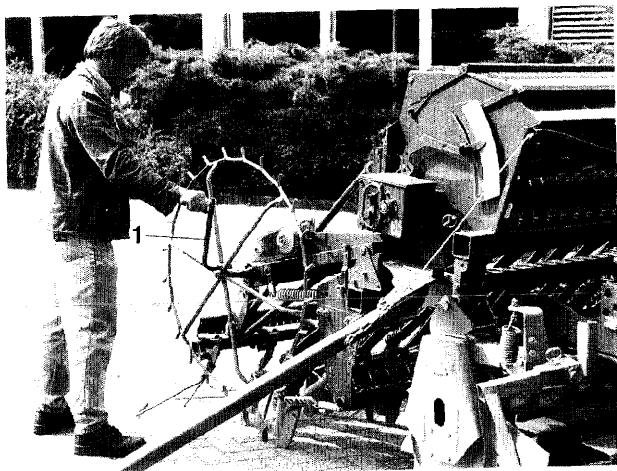
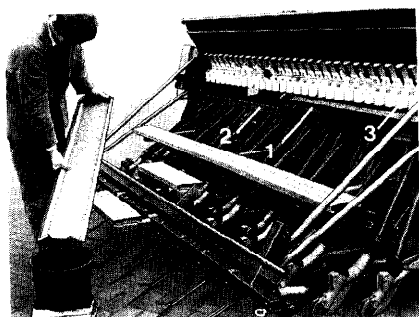

Fig.38
Fig.39
- Place calibration trays (Fig. 39/1) onto the seed tube mounting rail (Fig. 39/2).
- Insert calibration crank (Fig. 38/1) into the bush provided at the star wheel and start turning clockwise until seed is flowing from **all** metering wheel housings (Fig. 39/3) which are left open for sowing into the calibration trays.
- Weigh the seed collected in the calibration trays (Fig. 39) during the calibration test.